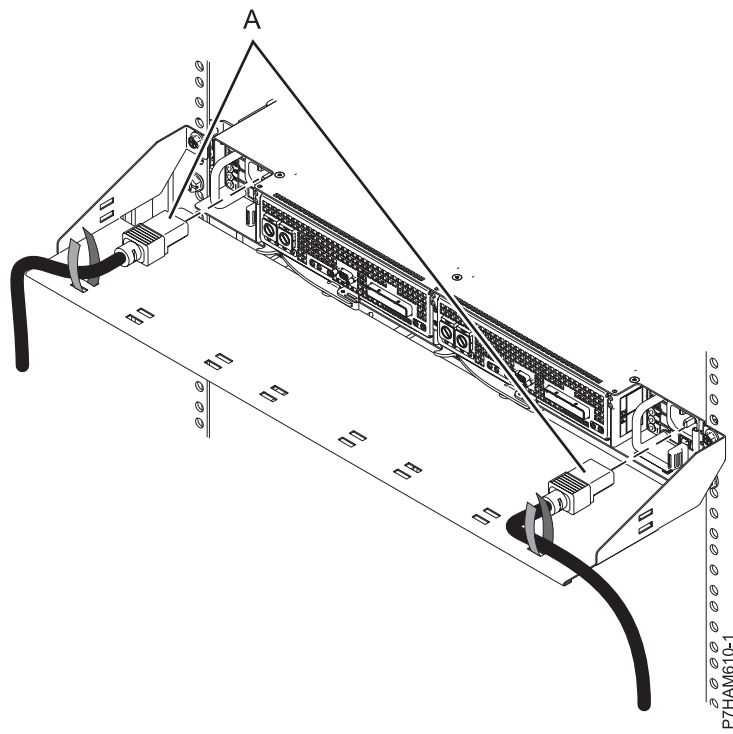

Figure 18. Installing the power cords
- h. At the rear of the rack, install the power cables (A), as shown in Figure 18. Use Velcro ties to secure the power cords to the cable management bracket.